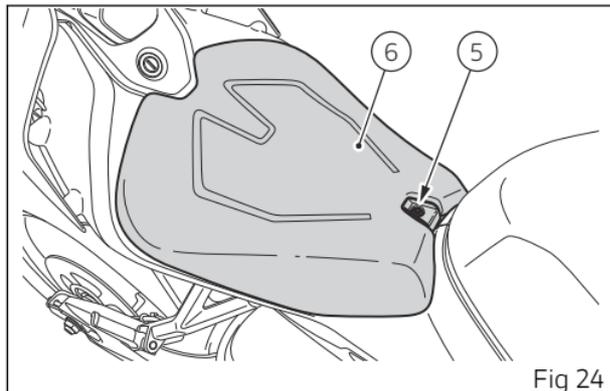

Fig 24
- Refit the rider seat by first inserting the brackets of seat (7) in the tabs (8) and then placing the front part of the seat on the frame;
- Fasten the seat (6) tightening screw (5, Fig 24);